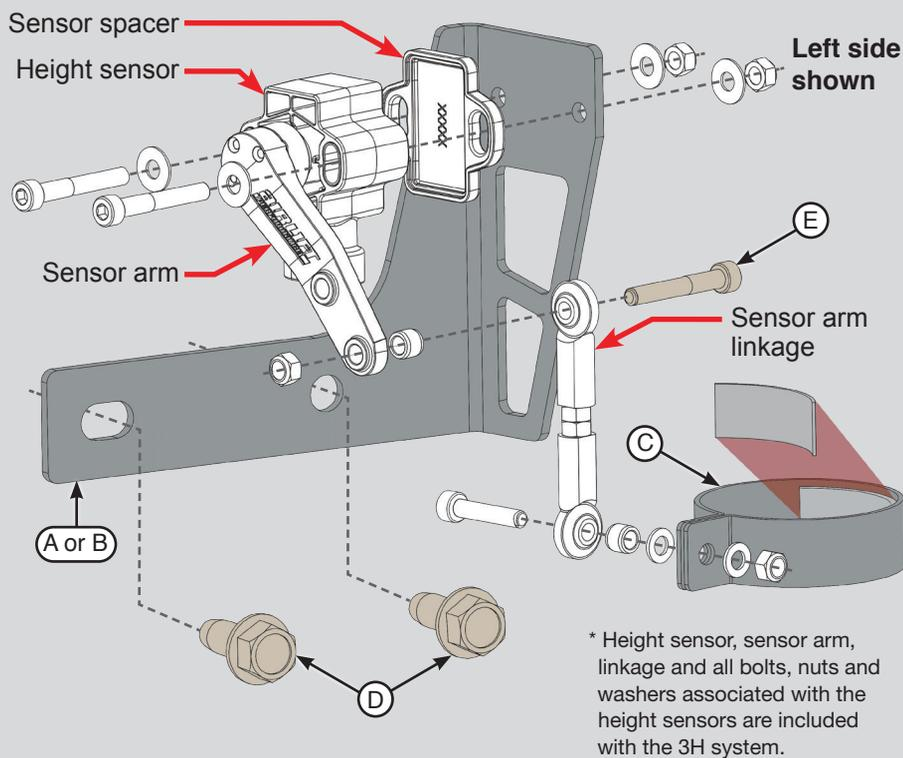

fig. 1
- Attach the rubber pad to the inside of the lower bracket opposite the bracket flanges (Fig. 1). Spread the lower bracket (C) apart so that it will fit over the strut body. It clamps over the strut so that it sits on top of the lower mount. To keep the linkage from binding, align the bracket flanges with the outside edge of the lower mount arm. (Fig. 8)